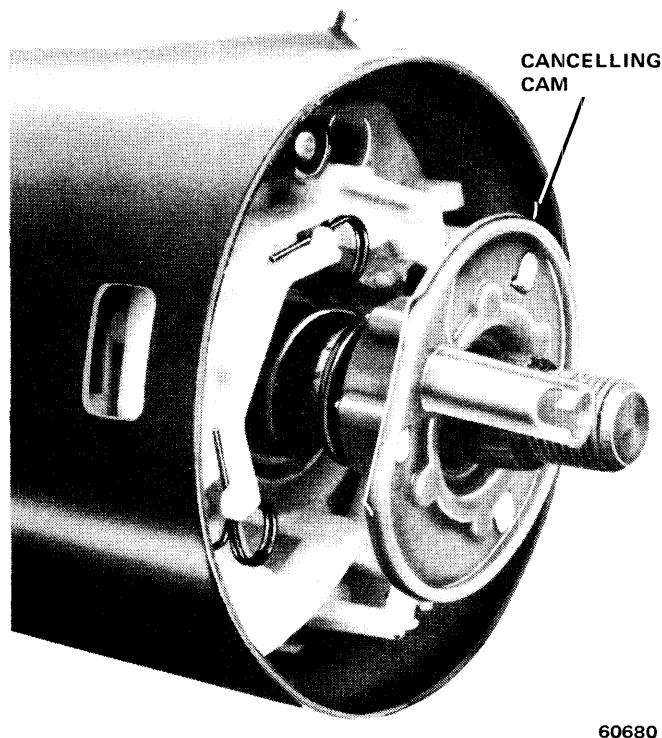
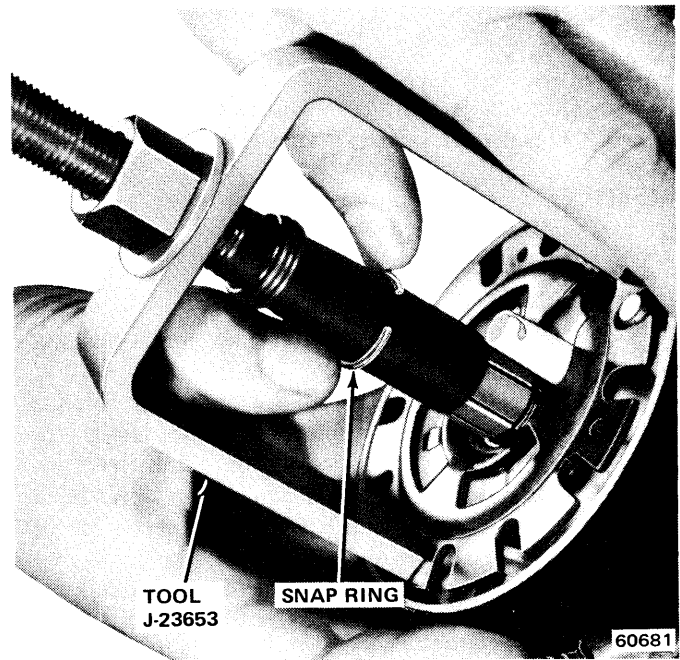

Fig. 11-22 Positioning Turn Signal Switch Cancelling Cam
Fig. 11-23 Installing Lock Plate and Snap Ring
(16) Install lower bearing, bearing adapter, retainer, and snap ring in lower end of column.
(17) Install steering shaft through lower end of column and into upper bearing in housing.
(18) Install turn signal switch and wire harness. Bend wires against connector and feed connector through housing and shroud.
(19) Align turn signal switch in housing and install switch attaching screws. Tighten screws to 35 inch-pounds torque.
(20) On vehicles without Cruise Command, install turn signal lever. Tighten lever attaching screw to 35 inch-pounds torque.
(21) On vehicles with Cruise Command, install lever and switch assembly. Use string previously taped in place to guide wires into housing. Remove string and tape. Connect wires to switch terminal and install lever attaching screw. Tighten screw to 35 inch-pounds torque.
(22) Install thrust washer, upper bearing preload spring, and canceling cam on steering shaft. Position canceling cam as shown in figure 11-22.
(23) Place turn signal switch in neutral position and install hazard warning switch knob.
(24) Position lock plate on steering shaft.
(25) Install snap ring on sleeve of Compressor Tool J-23653 and thread tool sleeve onto end of steering shaft (fig. 11-23).
(26) Compress lock plate and install snap ring in steering shaft groove (fig. 11-23).
(27) Install anti-theft cover.
(28) Remove Support Fixture Tool J-23074 and install column mounting bracket. Tighten bracket attaching bolts to 22 foot-pounds torque.
(26) Install replacement steering shaft snap ring on sleeve of Lock Plate Compressor Tool J-23653 and thread tool onto steering shaft (fig. 11-23).
(27) Compress lock plate and seat snap ring in steering shaft groove.
(28) Remove compressor tool.
(29) Install anti-theft cover.
(30) Align canceling cam and index marks on steering shaft and steering wheel and install steering wheel. Tighten steering wheel nut to 20 foot-pounds torque.